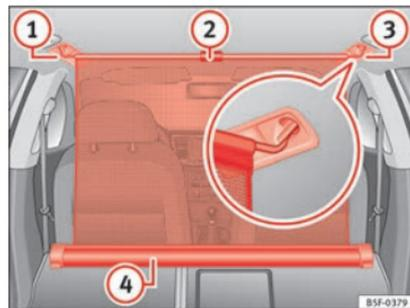

Fig. 171 In the luggage compartment: net partition hooked into the rear seat backrests.
- Pull up handle » Fig. 171 ② to remove the net from the casing » Fig. 171 ④.
- Hook in the net partition on the right side » Fig. 171 ③ (magnified image).
- Hook in the net partition in the left side housing » **Fig. 171 ①** pulling the rod.
The net partition is properly assembled when the T-shaped ends are firmly secured in the corresponding housings » **Fig. 171 ③** and **①**.
- Roll up the net into the casing » **Fig. 171 ④** lowering it with your hand.